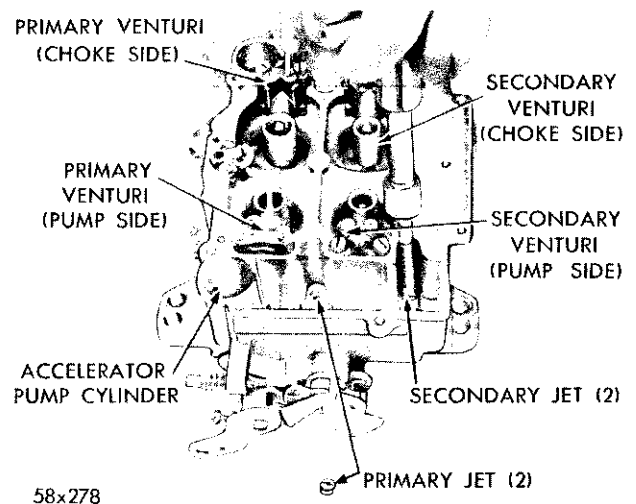

Fig. 24—Removing or Installing Main Metering Jets
(2) Using Tool T109-58, remove the main metering jets (primary side), as shown in Figure 24.
(3) Again using Tool T109-58, remove the main metering jets (secondary side), as shown in Figure 24.
(6) Install the primary and secondary main metering jets, using Tool T109-58. (See Fig. 24.) Tighten jets securely.